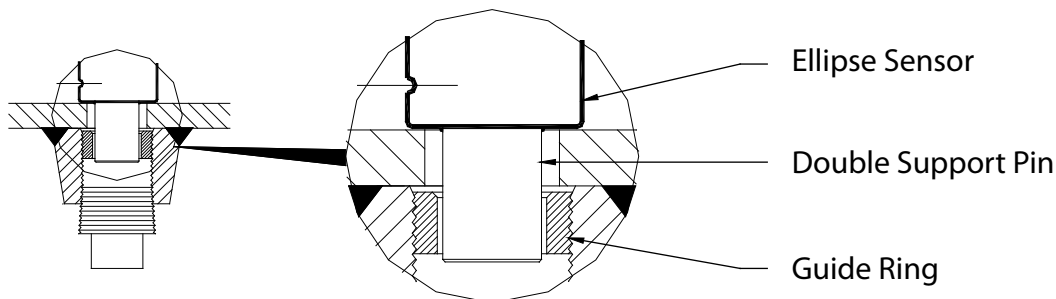

Figure 5: Double Support Pin
3. Install the BHL Ellipse sensor through the two holes. Make sure that the double support pin passes through the guide ring. See Figure 5.